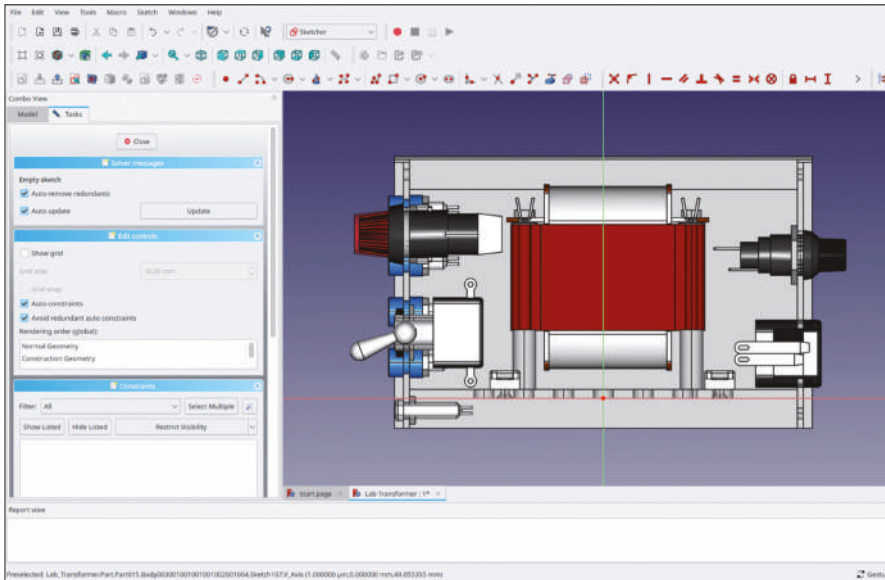

Figure 9-119
23. From the main menu, select 'Sketch | View section' and 'View | Orthographic view' (Figure 9-119).